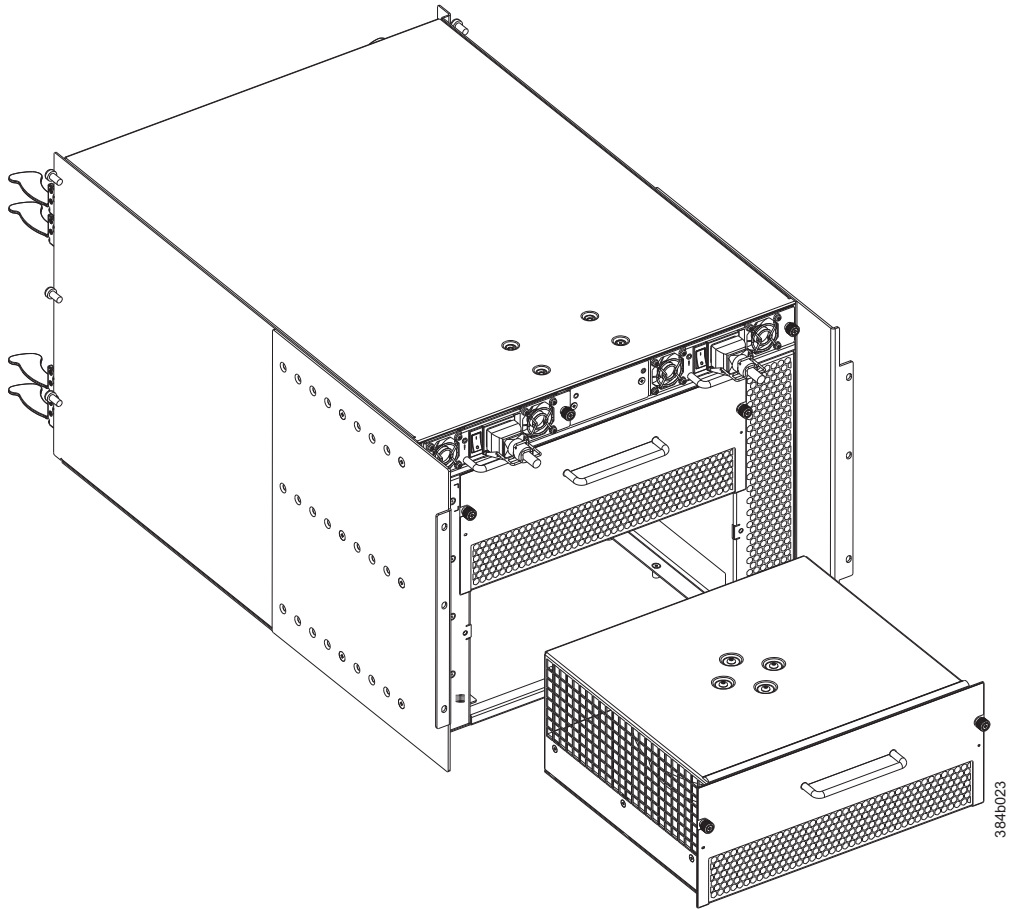

Figure 39. Blower assembly removal and replacement
3. Grasp the handle and pull, sliding the blower assembly from the chassis and supporting the blower assembly from beneath as you remove it (see Figure 39 on page 78).